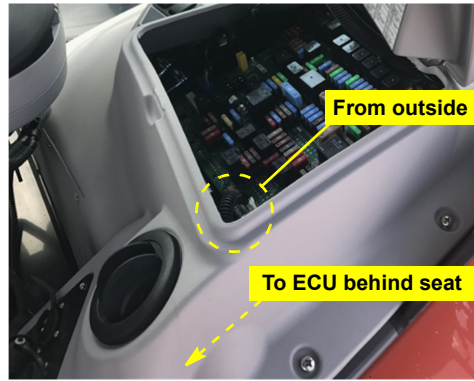

Figure 2c: Routing from cabling compartment
- c. Inside the compartment, route cables from (inside) the base of the cabling compartment to come out by ECU EM behind the seat (Figure 2c).